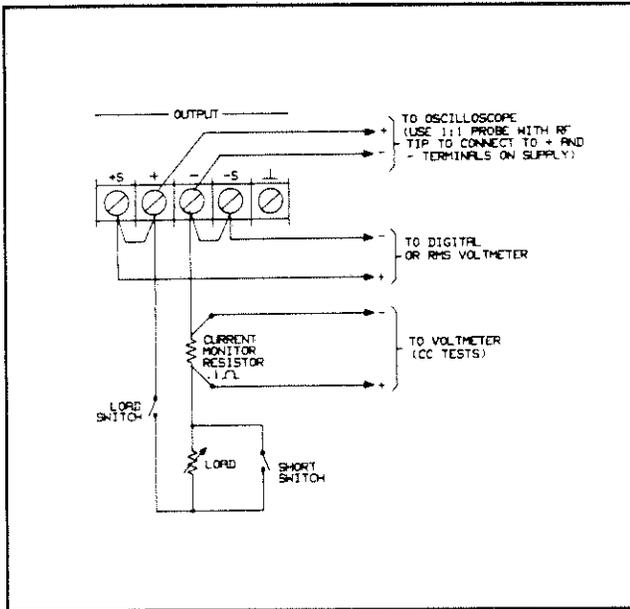

Figure 3-2. Basic Test Setup
- a. Turn off the supply and connect the output to be tested as shown in Figure 3-2 with the DVM connected between the +S and -S terminals, the Load switch closed, and the Short switch opened.
- Connect the output as shown in Figure 3-2 with the DVM connected between the +S and -S terminals, the Load switch closed, and the Short switch opened. Set the transformer to the nominal line voltage.
- Turn off the supply and connect the output as shown in Figure 3-2 to an oscilloscope (ac coupled) between the + and - terminals. Use only a resistive load for this test. Close the load switch and open the short switch. Set the oscilloscope's 20 MHz bandwidth limit on and use an RF tip on the oscilloscope probe. Also, make sure that the OUTPUT MODE switch on the supply's rear panel is in the NORMAL position.